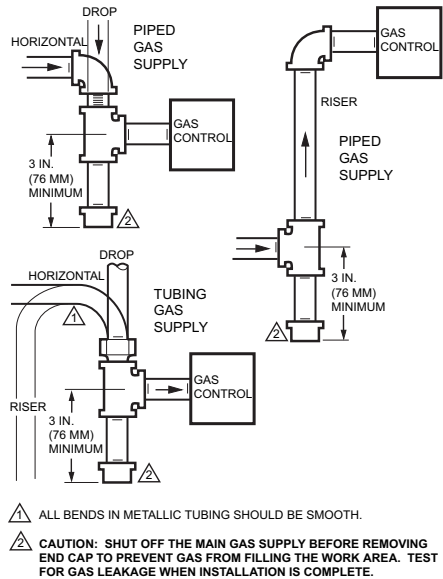

Fig. 2. Install sediment trap.
3. Install sediment trap in the supply line to the gas control. See Fig. 2.